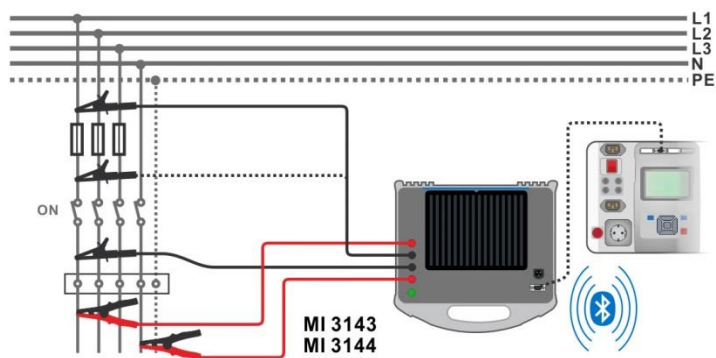

Figure 6.81: High Current resistance measurement
- › Connect test leads to the object under test, see Figure 6.81. Refer to *MI 3143 – Euro Z 440 V* or *MI 3144 – Euro Z 800 V Instruction manual* for detailed information.